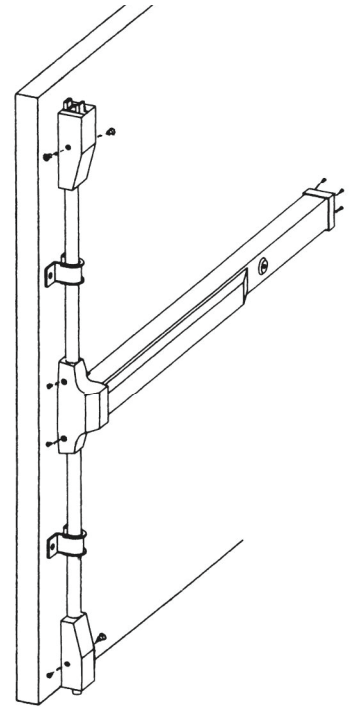

Figure 15
- a. Before installing covers, secure latch bolts and adjust strikes if necessary. (See Figure 15.)